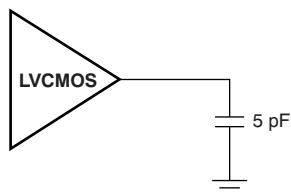
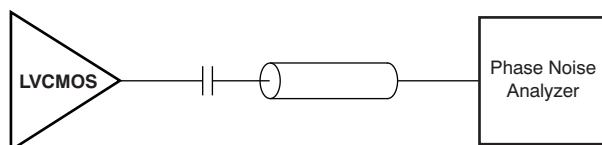
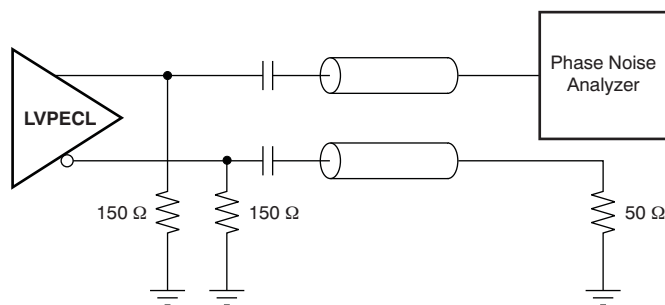
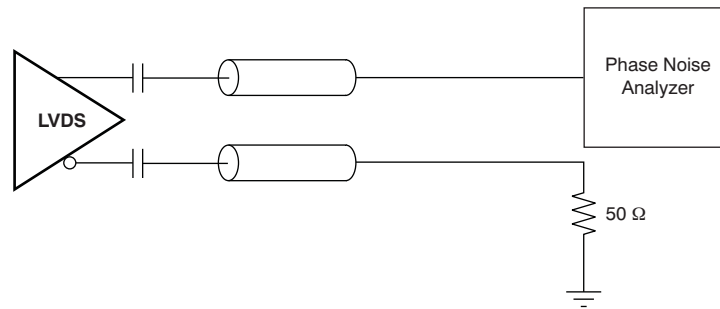

Figure 7. LVC MOS Output Loading During Device Test
Figure 8. LVC MOS AC Configuration During Device Test
Figure 10. LVPECL AC Configuration During Device Test
Figure 12. LVDS AC Configuration During Device Test
- (1) Figure 7 and Figure 8 show DC and AC test setups, respectively. Jitter measurements made using 25-MHz quartz crystal inches.
250-MHz LVCMOS OUTPUT(1) (See Figure 8)
625-MHz LVPECL OUTPUT(2) (See Figure 10)
625-MHz LVDS OUTPUT(3) (See Figure 12)
(1) Figure 8 shows test setup and uses 25-MHz quartz crystal in,  $V_{CC} = 3.3$  V, and  $T_A = 25^\circ\text{C}$ .
(2) Figure 10 shows test setup and uses 25-MHz quartz crystal in,  $V_{CC} = 3.3$  V, and  $T_A = 25^\circ\text{C}$ .
(3) Figure 12 shows test setup and uses 25-MHz quartz crystal in,  $V_{CC} = 3.3$  V, and  $T_A = 25^\circ\text{C}$ .
(1) Figure 8, Figure 10, and Figure 12 show LVCMOS, LVPECL, and LVDS test setups (respectively) using appropriate quartz crystal in, VCC = 3.3 V, and TA = 25°C.
This section describes the function of each block for the CDCM61004. Figure 7 through Figure 13 illustrate how the device should be set up for a variety of output configurations.